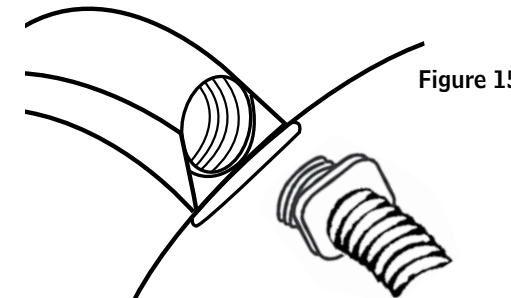

Figure 15
1. Align male end of breathing tube to female threaded insert on the back of the helmet (see Figure 15). Do not remove foam from inside the breathing tube used with HMX Series Airline Respirators. The foam helps to reduce the noise level of incoming air.